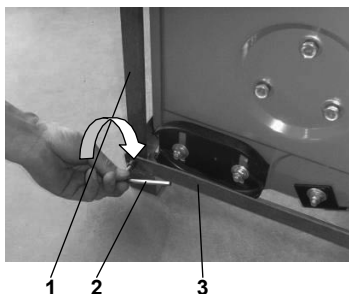

Fig. 1
1. Unscrew the bolt and carry away the upper bracket (Fig. 1).